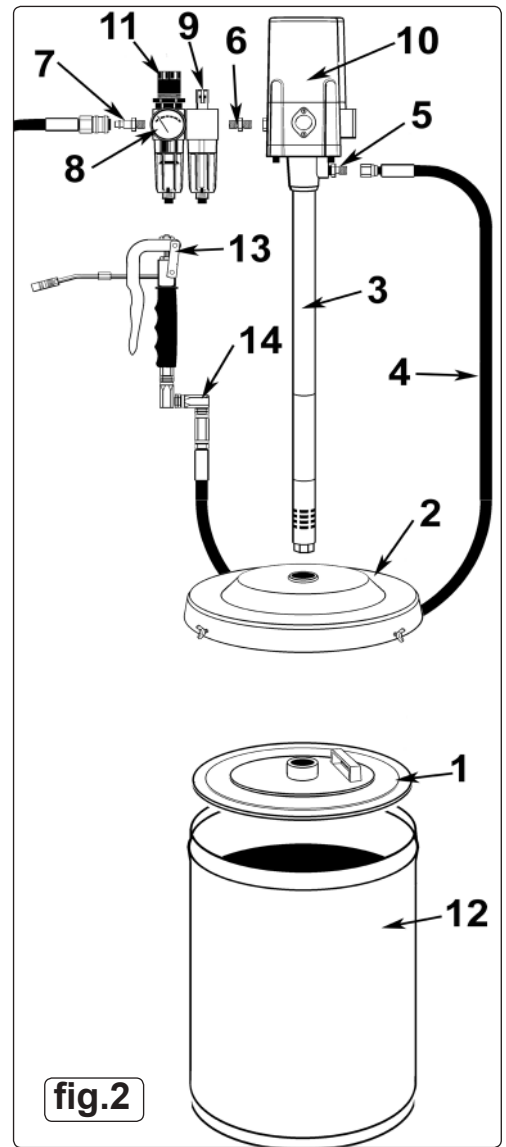

fig.2
- 4.1.1. Remove items from carton and identify pieces from contents list above using fig.1 and fig.2 as a reference.
4.3. Assembling the pump unit (refer to fig.2).